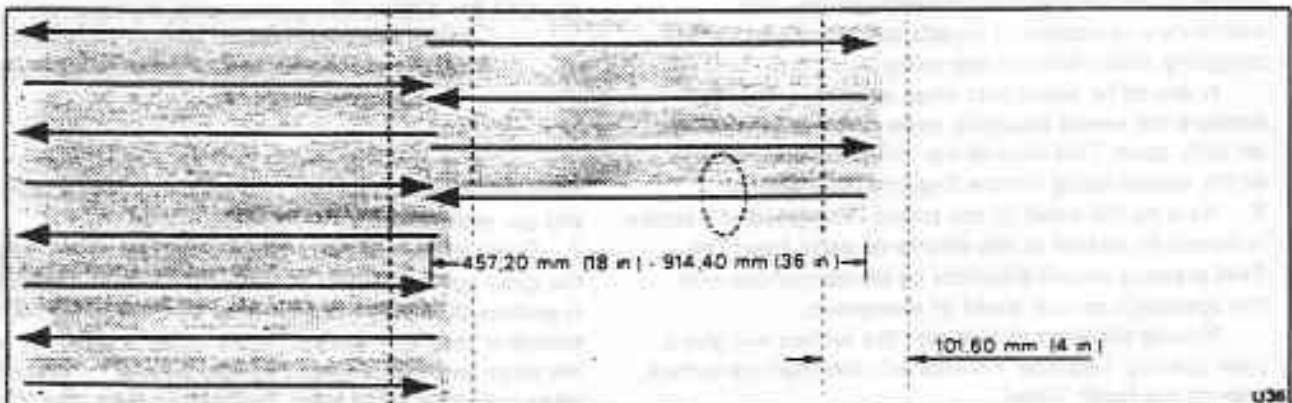

Fig. S17-33 Manageable distances when spraying long panels
1. Long work. A long panel should be sprayed in separate sections between 457,20 mm and 914,40 mm (18 in and 36 in) long (see fig. S17-33), triggering the gun in the usual manner at the ends of each stroke. Each section should overlap the previous section by approximately 101,60 mm (4 in).